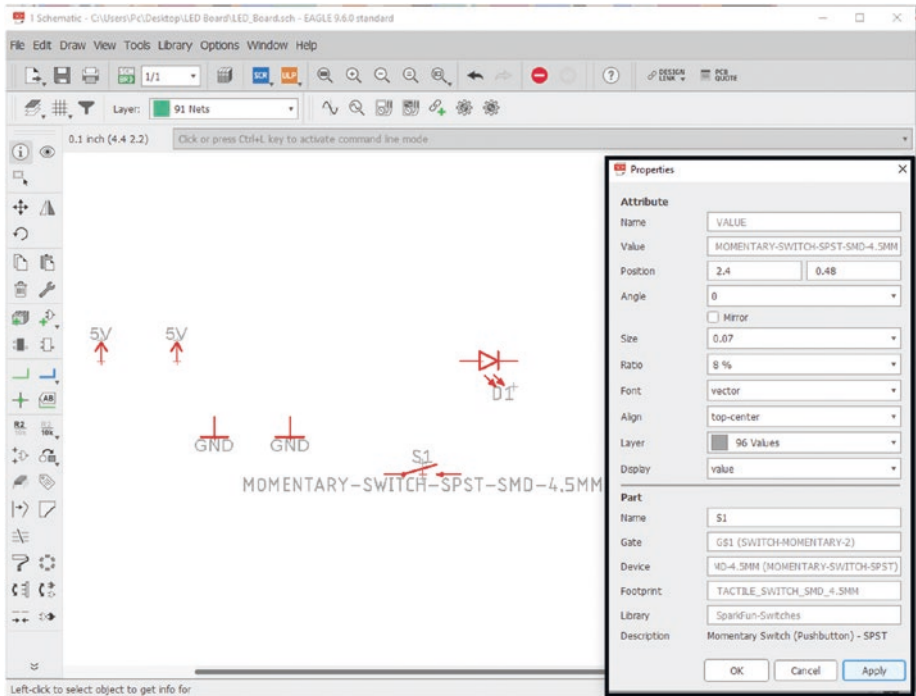

Figure 5-30. Update the value of the button
17. Click the Info button and then click the switch you just placed. The info dialog window will open. See Figure 5-30.